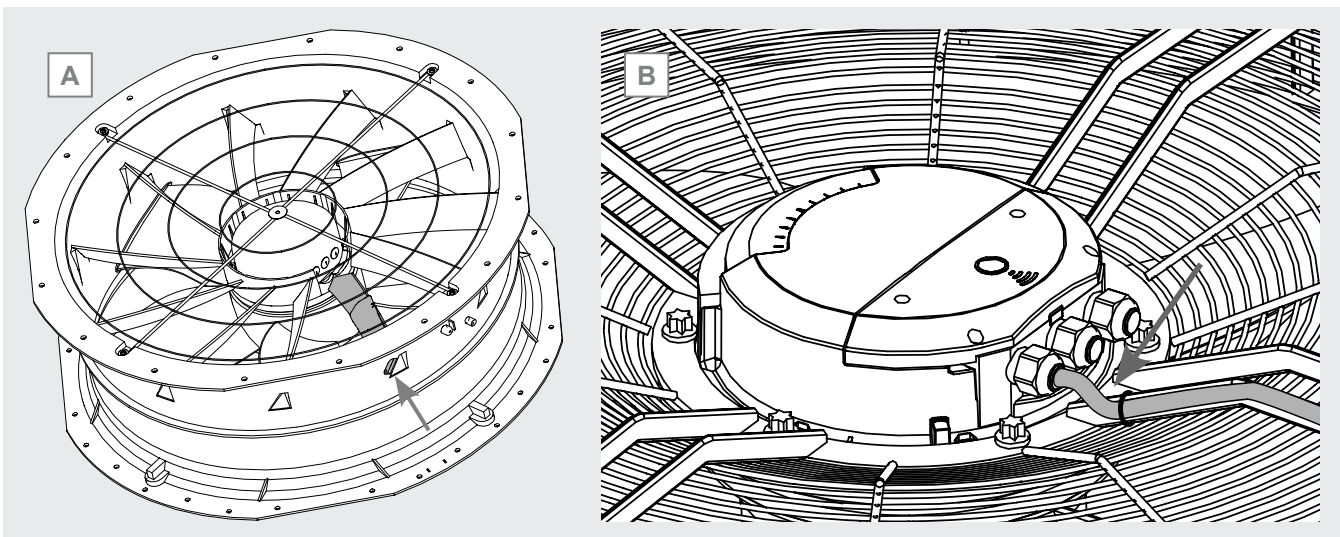

Figure 36
- 12.20.18 Secure the power cable with electrical ties to the grille (radial or planar-mounted motorfan) or to the appropriate cable routing bracket (motorfan with integrated fan shroud). See Figure 36 A.
- 12.20.19 The cable entering the cable gland of the electrical box should be fixed in such a way as to form a U. See Figure 36 B.